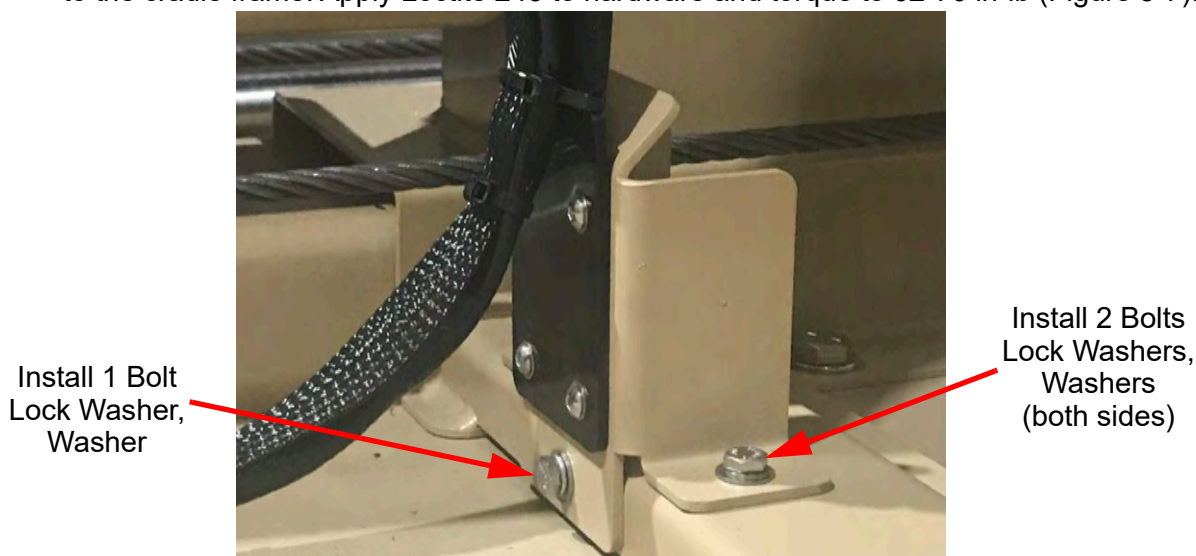

Figure 5-7 Install Bracket to Cradle Frame
- c. Install the other bracket to the bottom of the cradle frame by installing the provided 3 bolts to the cradle frame. Apply Loctite 243 to hardware and torque to 62-70 in-lb (Figure 5-7).